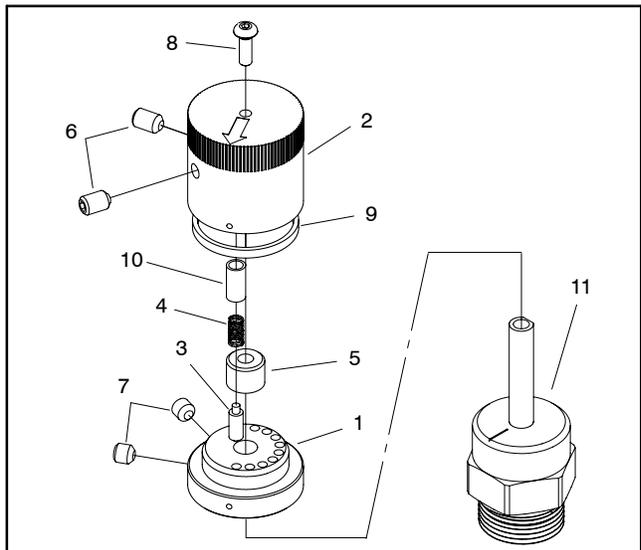

Figure 60
1. Remove rotary handle from valve (Fig. 60):
- A. Loosen two (2) set screws that secure handle cap.
- D. Loosen two (2) set screws that secure handle base to flow control valve and remove base.
6. Install rotary handle (Fig. 60):
- A. Place handle base on flow control valve and position alignment mark on base with number 1 on manifold. Secure base with two (2) set screws. Apply a light coating of grease to chamfer on top of base to ease seal installation.
- D. Make sure that alignment marks on cap and base are in line and that arrow on cap is pointing to number 1 on manifold. Tighten two (2) set screws to secure handle cap.